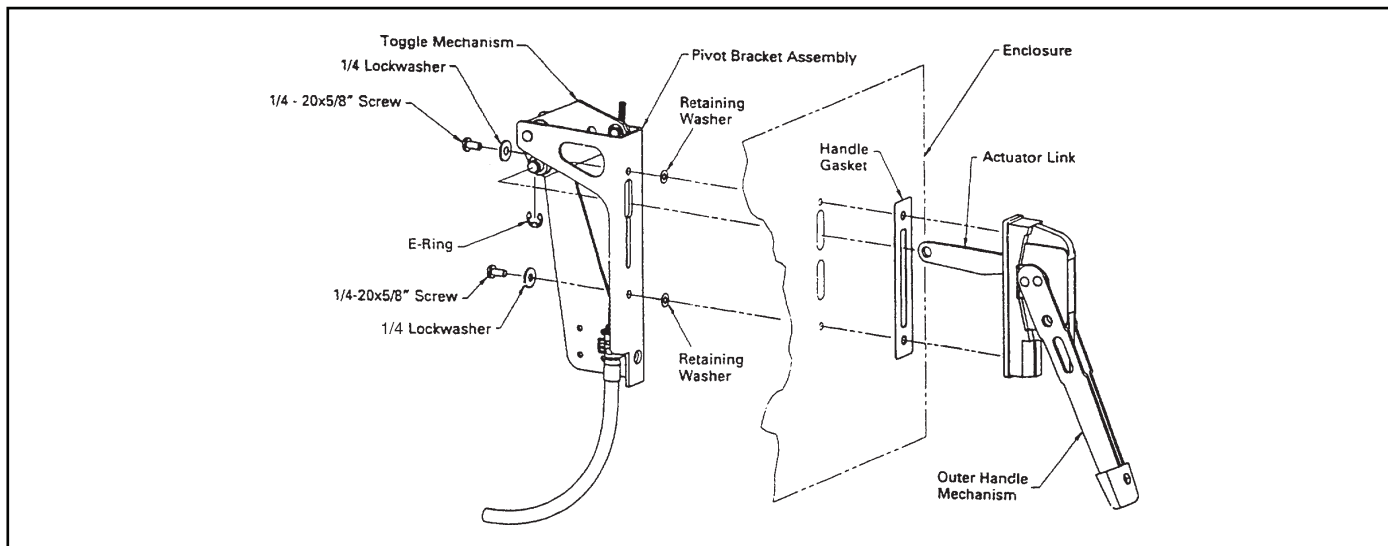

Fig. 1. Pivot Bracket and Outer Handle Mechanism Assembly.
1. Remove the two 1/4-20 x 5/8" screws and lock-washers from the outer handle mechanism. Place each screw and lockwasher through the pivot bracket assembly. Thread the retaining washers enclosed in the parts kit onto the 1/4-20 x 5/8" screws. See Figure 1.
2. Connect the actuator link from the outer handle mechanism on the pivot bracket assembly. Mount the pivot bracket assembly to the enclosure and outer handle mechanism by securing the mounting hardware. Attach the E-Ring supplied in the parts kit to the actuator link. See Figure 1.